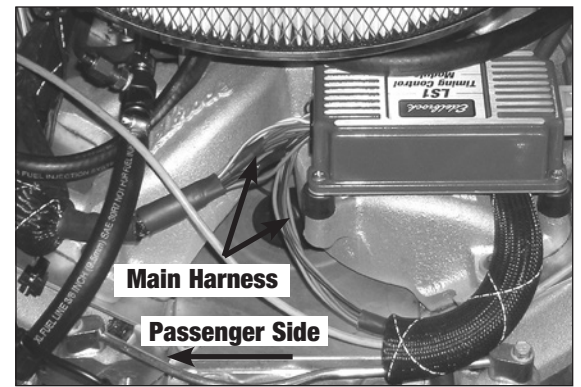

Figure 2 - Timing Control Module Mounting
2. Select the appropriate cable brackets for your application (large or small opening brackets) and attach them to the GEN III throttle bracket base with the appropriate number of 6mm x 1.0 x 12mm serrated flange hex bolts. (Note: In our retrofit of the LS1 into a 1974 Camaro, using a TH400R automatic transmission, we only needed one of the small opening cable brackets for the throttle cable, since a kick down cable is not used. See **Figure 2** for example.)
- Using the supplied rubber isolators included with the Timing Control Module, plus the four locknuts, attach the module to the manifold. Mount the module so that the main harness will face the passenger side (See Figure 2).